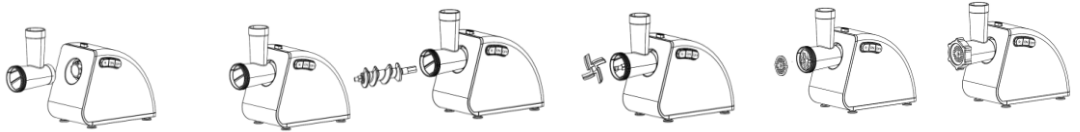

Fig. 2
Grinding assembly (fig 2)
3. Check if the grinding chamber is complete. If not, assemble the chamber using all elements, according to figure 2.
4. Mount the assembled grinding part in the drive, so that the coupler (9) fits the drive head (7). Press in the grinding part, and rotate counter clockwise until vertical. Audible click is heard when the assembly is mounted correctly. Tighten nut (12) on the grinding chamber (3).
5. Mount the tray (4) on top of the grinding chamber.